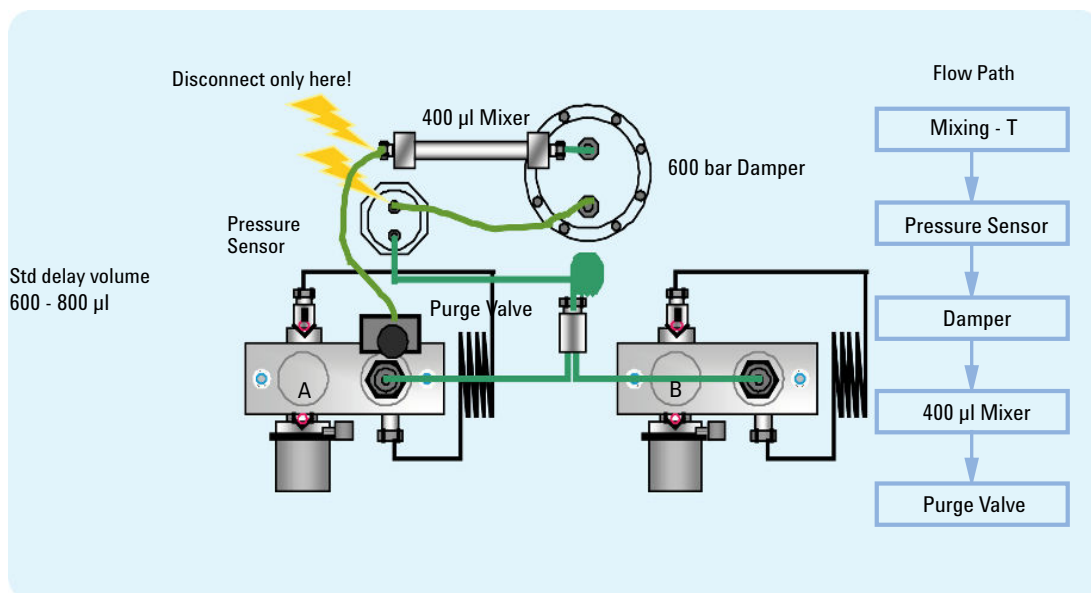

Figure 15 Standard delay volume configuration for 3 and 4.6 mm ID columns with highest UV sensitivity
- For 4.6 mm inner diameter columns the standard delay configuration should be used for the pump, see Figure 15 on page 45.